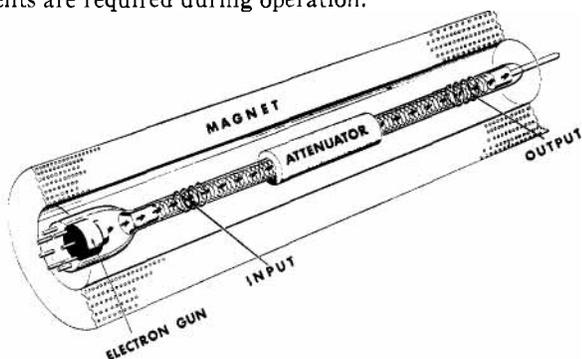

Figure 1. Construction of the -hp- Traveling Wave Tube showing input and output coupling helices and attenuator helix midway in the tube.
-hp- engineers developed a simple new broad band coupling method employing helices. (Figure 1.) There is no mechanical connection to the inner helix, yet full energy transfer is effected. The difficulties in previous experimental amplifiers using multi-element networks, taper or vacuum leads have been overcome with matching helical couplers at both input and output ends of the tube. A similar helix is used for a coupled attenuator which surrounds the central portion of the tube, preventing amplified energy from causing regeneration.